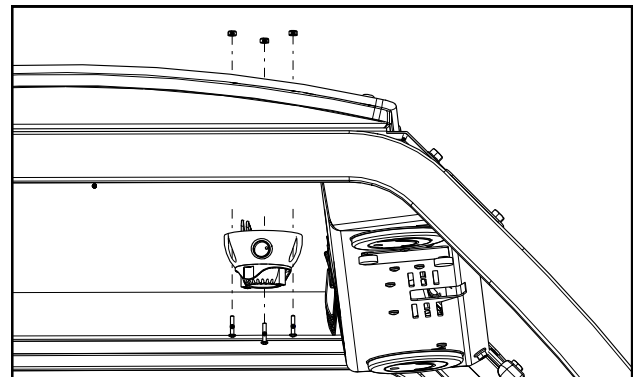

Fig. 2.2
- 2.2 Feed dome light wires through the slotted hole in the roof pan, then secure the light to the pan with the #6-32 x 3/4" pan head screw and #6-32 Nylon locknut supplied. Shown in figure 2.2. Torque to 10 inch-lbs.